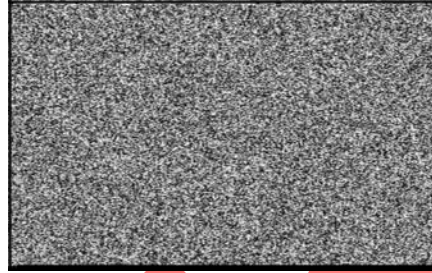

Figure 6
2. Remove two screws (B, Figure 6), breather cover. Discard gasket (before